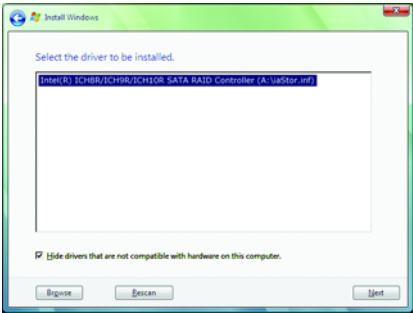

Figure 8
When a screen as shown in Figure 8 appears, select **Intel(R) ICH8R/ICH9R/ICH10R SATA RAID Controller** (Note) and press **Next**.
(Note) The item displayed in Figure 8 will be shown as **Intel(R) ICH10R SATA AHCI Controller** when the SATA controllers are set to AHCI mode.